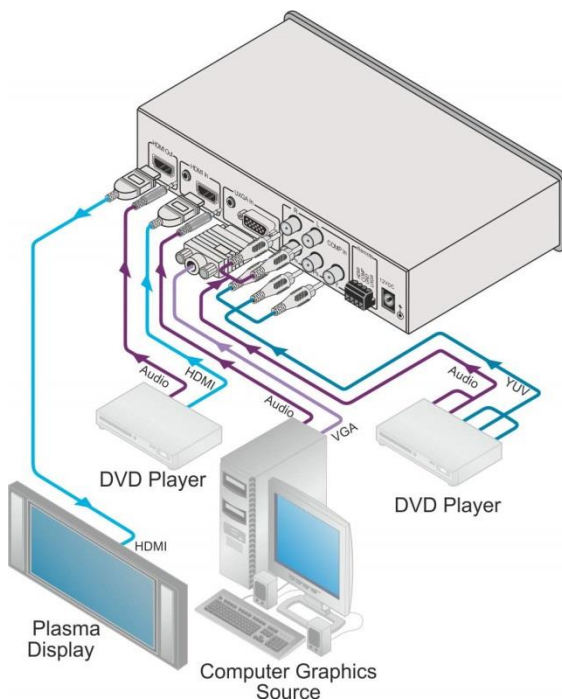

Figure 2: Connecting the VP-435 Component / UXGA HDMI Scaler
| Figure 2: | Connecting the VP-435 Component / UXGA HDMI Scaler | 7 |
To connect your **VP-435**, as illustrated in the example in Figure 2, do the following:
5. Connect the 12V DC power adapter to the power socket and connect the adapter to the mains electricity (not shown in Figure 2).